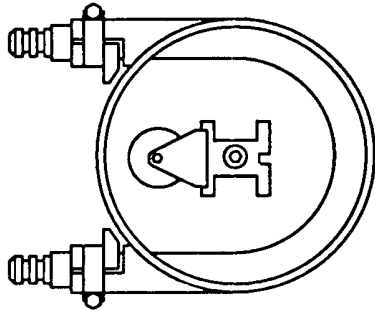

Fig. 10
4. Remove the roller holder (two screws) which is not compressing the hose. Also remove any shims under it. Turn the rotor 180° as in Fig. 10.